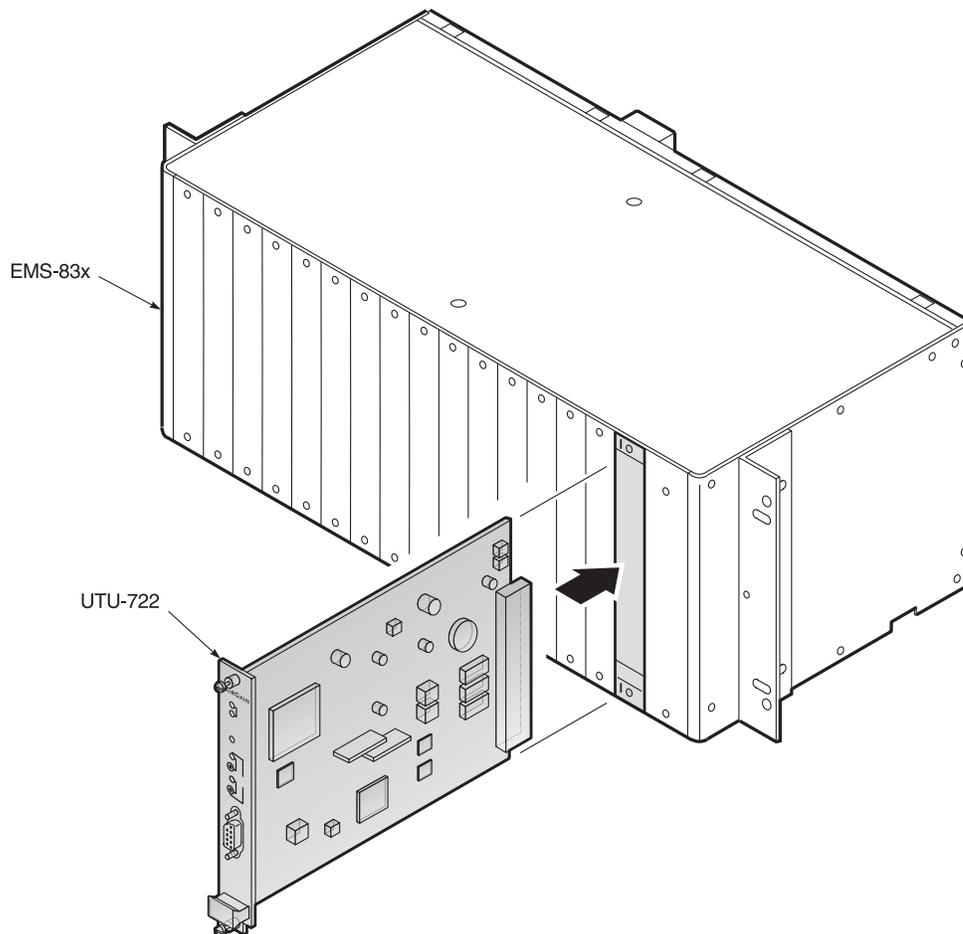

Figure 11. Installing the UTU-722 Line Unit
- 1 Align the UTU-722 with the card guides in the shelf or enclosure (see Figure 11).